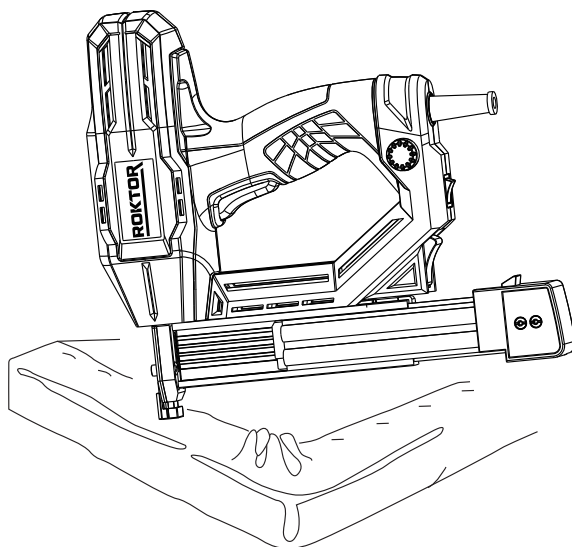

Fig. 6
- Fixing textiles (See Fig. 6)